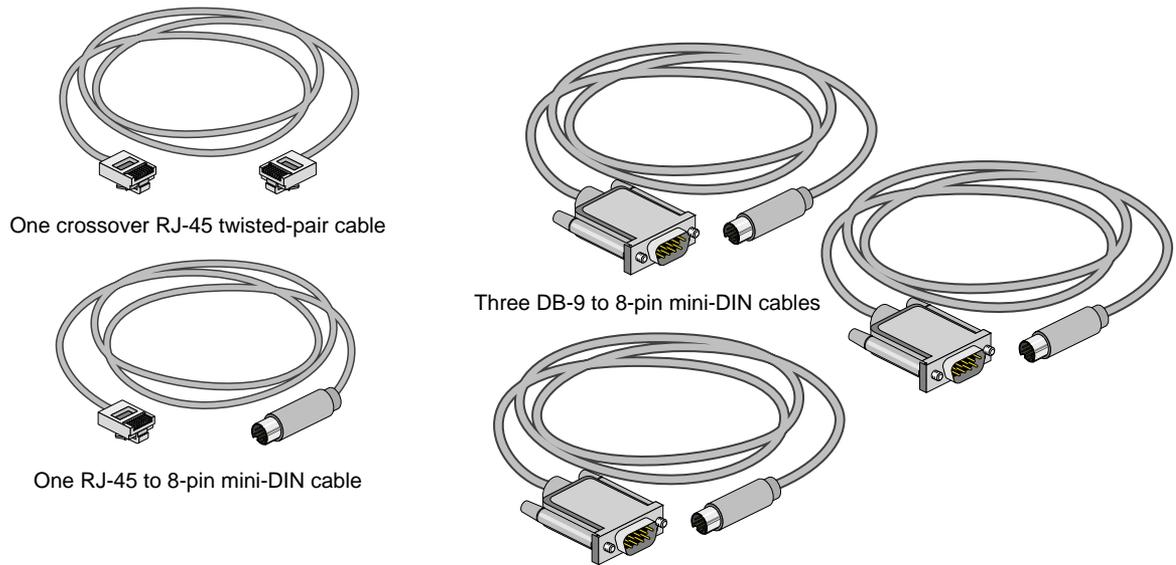

Figure 2-22 Items Needed to Connect SGIconsole to an SGI 2400 or SGI 2800 Server
3. Make sure that you have the following items as shown in Figure 2-22: